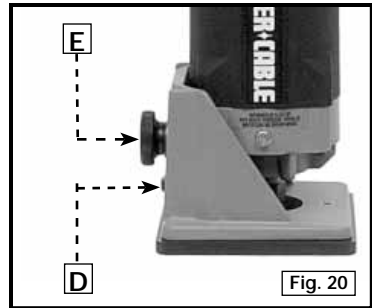

Fig. 20
1. Loosen the base locking screw (E) Fig. 20 approximately 1/4 turn.
2. Turn the depth-adjusting wheel (D) Fig. 20 counter-clockwise (looking at top of wheel) to lower the bit until it touches the guide plate.
3. Firmly tighten the locking screw (E).